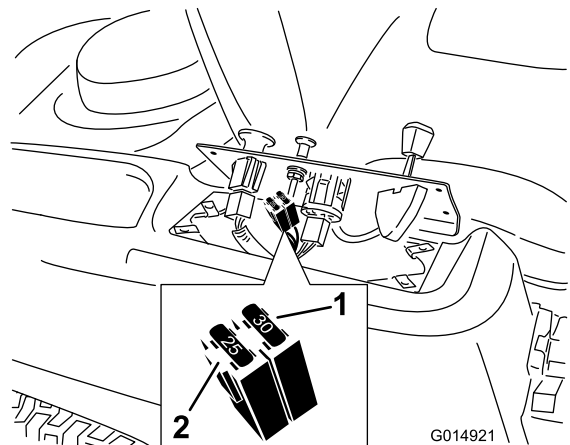

Figure 40
2. Lift the control panel up to access the main wire harness and fuse block (Figure 40).
3. To replace a fuse, pull out the fuse to remove it (Figure 40).